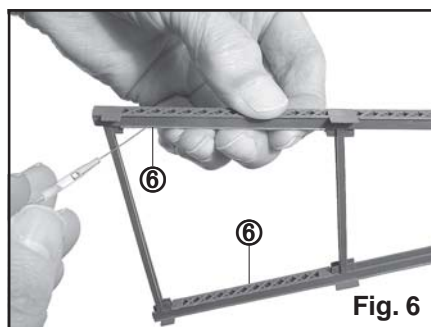

Fig. 6
To assemble, pick up the bent assembly and hold part (6) against the bent edges, with its ribs outside each bent half. Apply cement along one edge at a time. See Fig. 6.
Assemble as in step 5. See Fig. 6.
13. Cement a second **tower strut lattice** part (19) to the top of the tower strut assembly.
To assemble, remove the straight pins, pick up the tower strut assembly, and hold part (19) against the assembly (similar to fig. 6) with its lattice straps up and the ribs to the outside. Apply cement along the ribs while applying pressure.